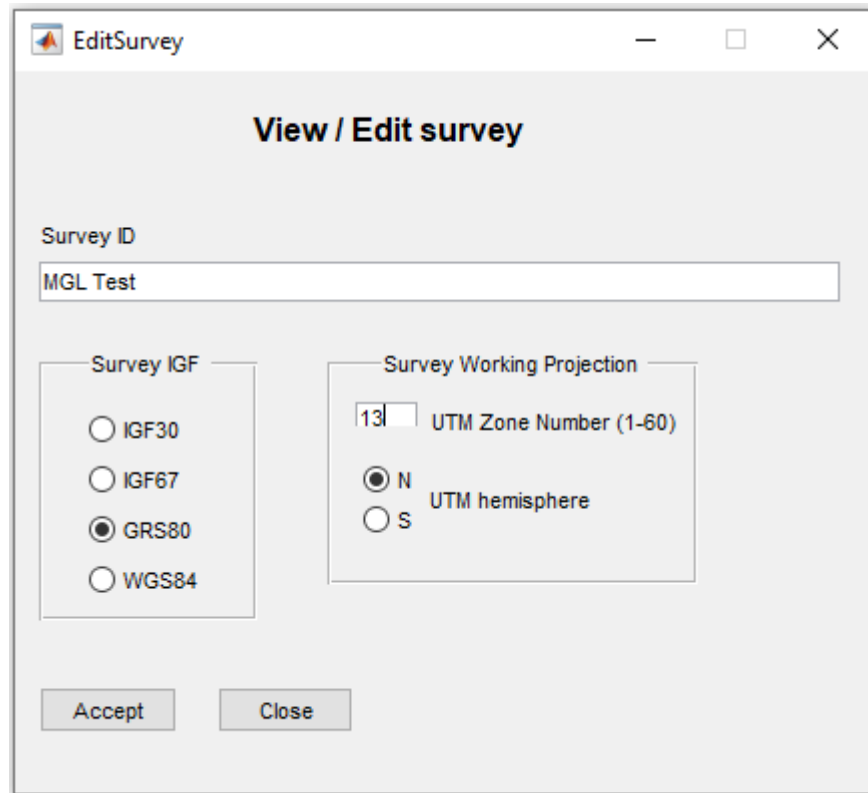

Figure 4-4 Edit Survey Dialog
- Clicking Select Folder launches the EditSurvey dialog (Figure 4-4).